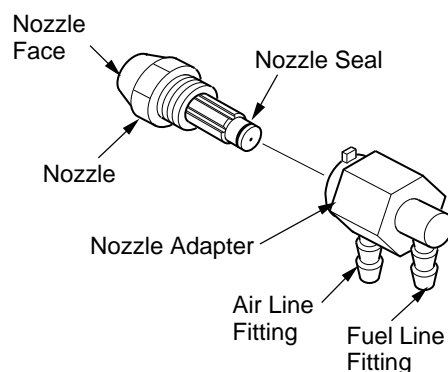

Figure 20 - Nozzle and Nozzle Adapter
6. Carefully remove nozzle from the nozzle adapter using 5/8" socket wrench (see Figure 20).
9. Replace nozzle into nozzle adapter until nozzle seats. Tighten 1/3 turn more using 5/8" socket wrench 4.5 to 5.1 N-m (40 to 45 in-lbs). See Figure 20.